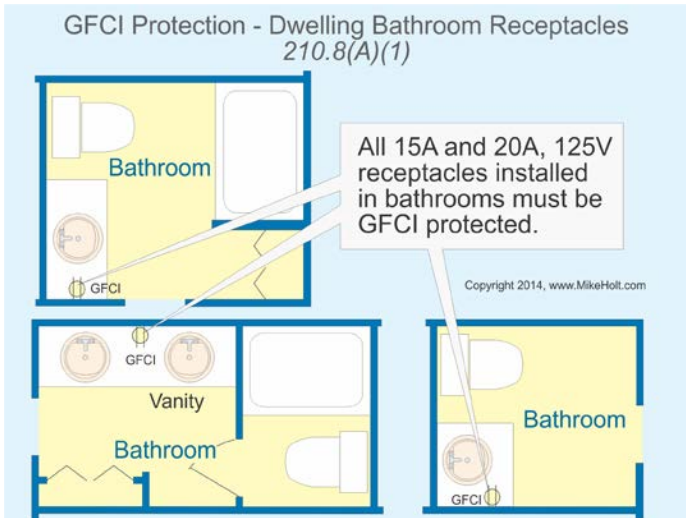

Figure 210-23
(1) Bathroom Area. GFCI protection is required for all 15A and 20A, 125V receptacles in the bathroom area of a dwelling unit. *Figure 210-23*